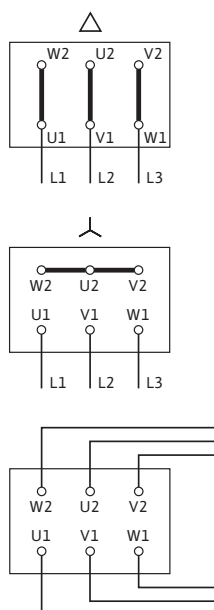

Fig. 8: Mains connection
- The mains connection to the terminal board is dependent on the motor power P_2 , the mains voltage and the start-up type. The recommended switching arrangement of the connection bridges in the terminal box should be taken from the following table and fig. 8.